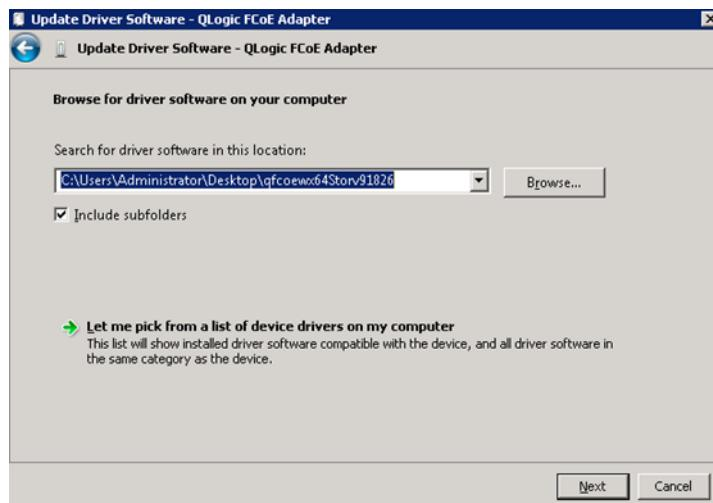

Figure 3-29. Select Driver Software
8. In the Update Driver Software—Ethernet Controller dialog box, click **Browse**, and then navigate to the folder containing the QLogic FCoE driver that you downloaded earlier (Figure 3-29). Click **Next**.